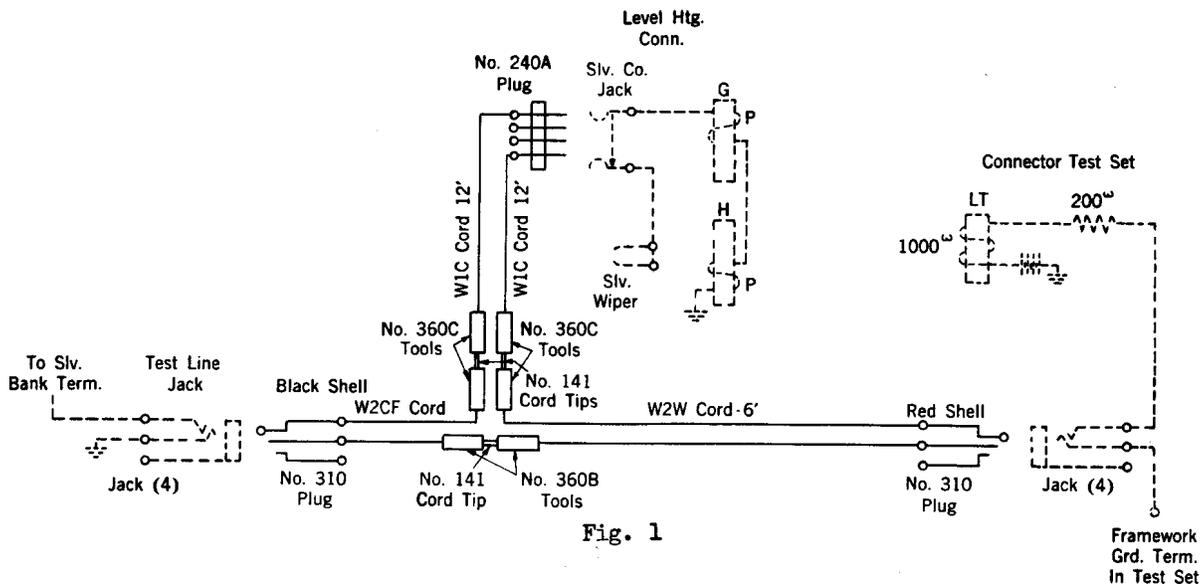

Fig. 1
- 2.12 W2W Cord, 6 feet long, equipped with No. 310 Plug, No. 360B Tool, and No. 360C Tool (2W17A); W2CF Cord equipped with No. 310 Plug (replace red shell with black shell), No. 360B Tool, and No. 360C Tool (2W17D); two W1C Cords, each 12 feet long; two No. 360C Tools; No. 240A Plug; three No. 141 Cord Tips. Connect to form Special Cord as shown in Fig. 1.
6c	If testing level hunting connectors - Insert black shelled No. 310 plug of special test cord (Fig. 1) into jack 4 of test line (level hunting) on connec- tor frame, and insert red shelled No. 310 plug of special test cord (Fig. 1) into jack 4 of test set.
15	Insert No. 240A plug (stay cord to the right) of special test cord, Fig. 1, into sleeve cutoff jack of connector. Note: If sleeve cutoff jack wiring is reversed, reverse No. 240A plug.